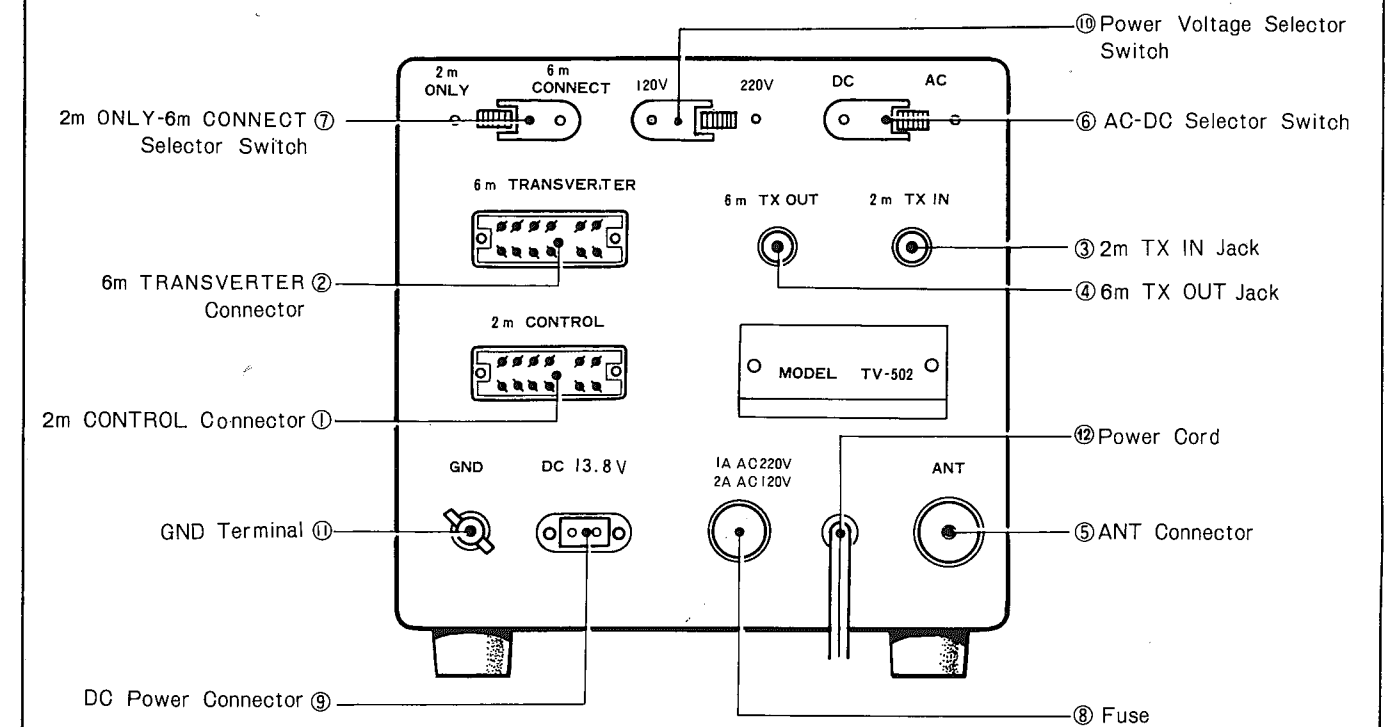

Fig. 3 Rear Panel
2.2 REAR PANEL (SEE FIG. 3)
- ① **2 M CONTROL CONNECTOR**